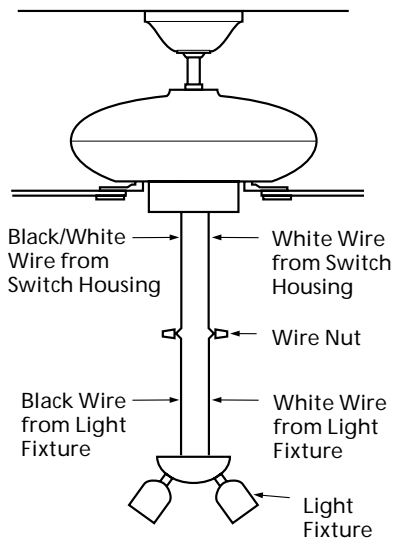

Figure 10b - Wiring Light Fixture to Fan
6. Connect the black wire from the light fixture to the black/white wire from the lower switch housing. See Figure 10b.
Connect the white wire from the light fixture to the white wire from the lower switch housing. See Figure 10b.